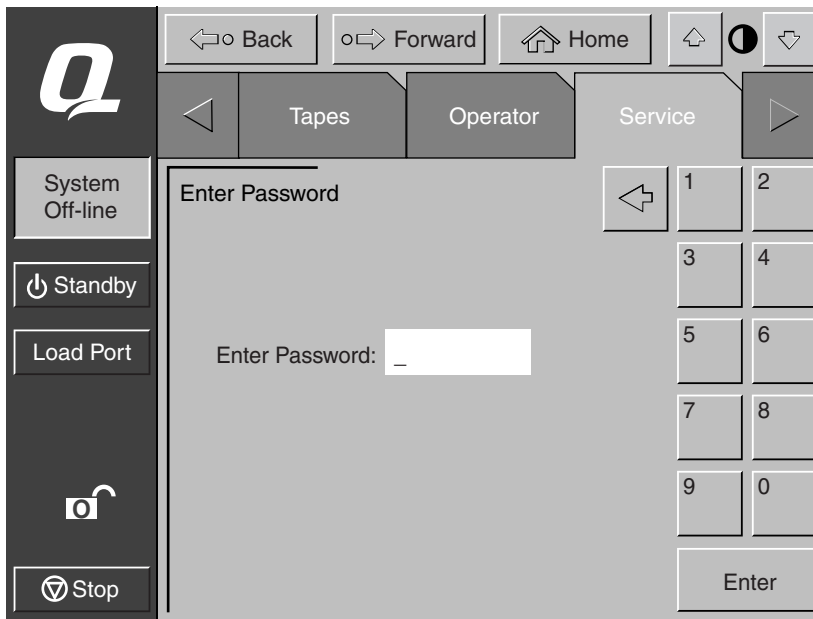

Figure 4-1. Password screen
1. Press the **Operator** tab. The control panel displays the password screen (see Figure 4-1).